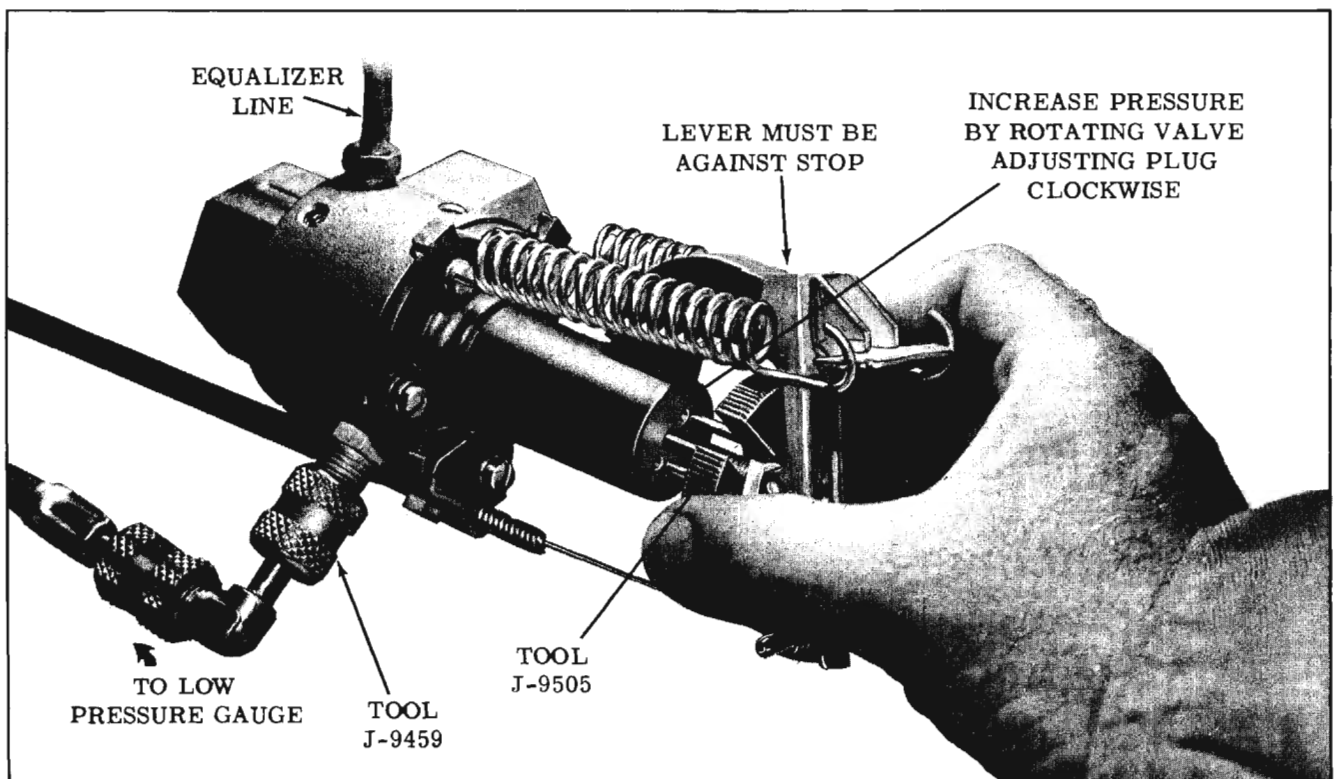

Fig. 15-122 Adjusting Suction Throttling Valve
- a. Engage the pins on Tool J-9505 in holes in valve plug. (Fig. 15-122)